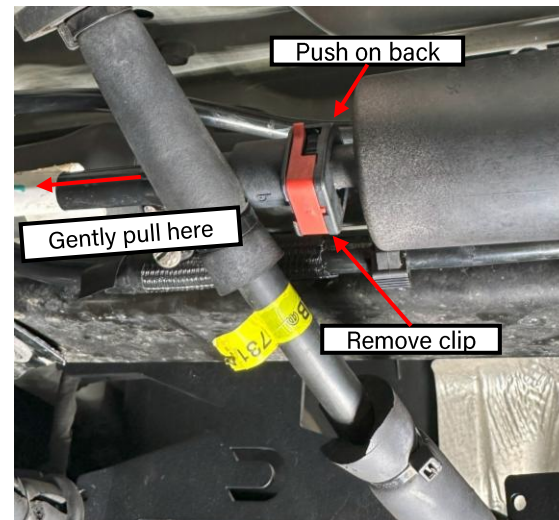

Figure 10: Vapor system hose clip
- Remove the vapor system hose clip by removing the red, plastic retaining clip and gently pushing down on the spring on the back of the connection (Figure 10)